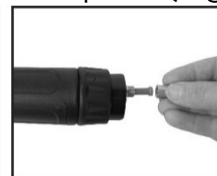

Fig. 62
2. Remove the liner retaining nut (Fig. 62).